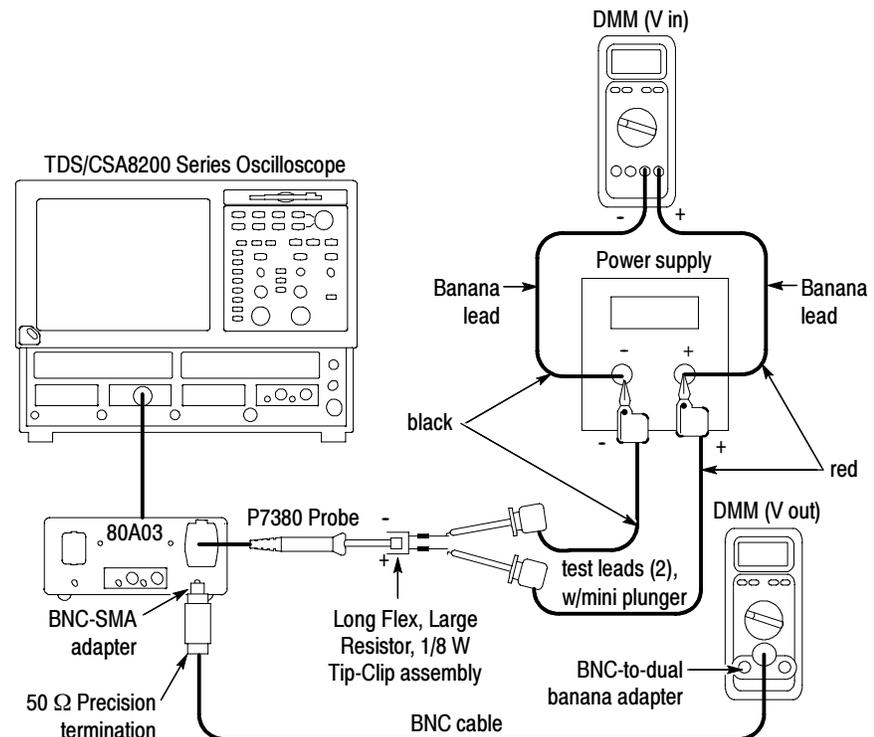

Figure 20: DC Gain Accuracy setup
2. Connect the probe with a Tip-Clip assembly to the power supply as shown in Figure 20. Monitor the source voltage with one of the DMMs.